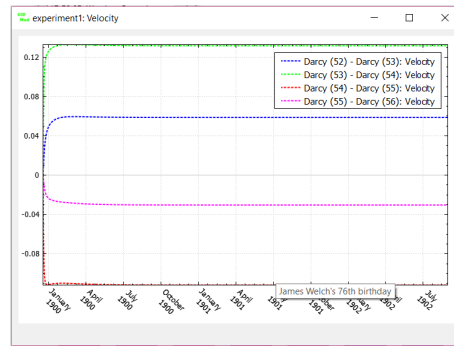

Figure 5: Darcy flux in select blocks
- Right-click on connectors of your choice and select **Velocity** from the drop-down menu. Figure 5 shows the flow rate in connectors connecting *Storage(54)* to *Darcy (57)*. This shows the Darcy flux in the connectors.